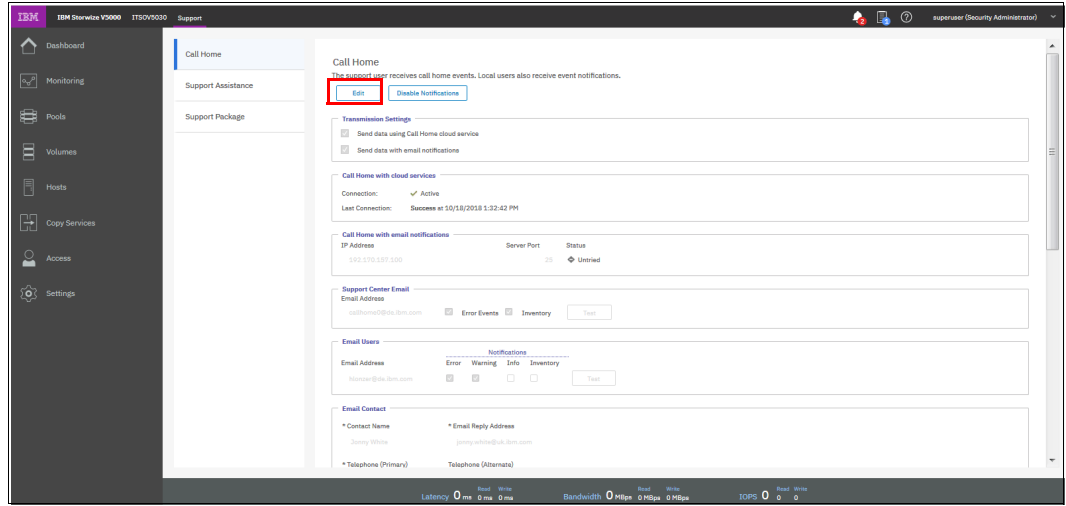

Figure 12-78 Edit Call Home
- After finalizing the setup, you can now add an email receiver, if needed. Click **Edit**, as shown in Figure 12-78.